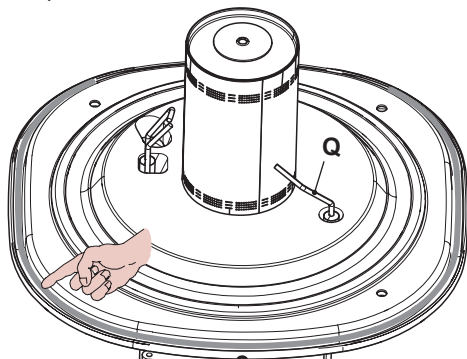
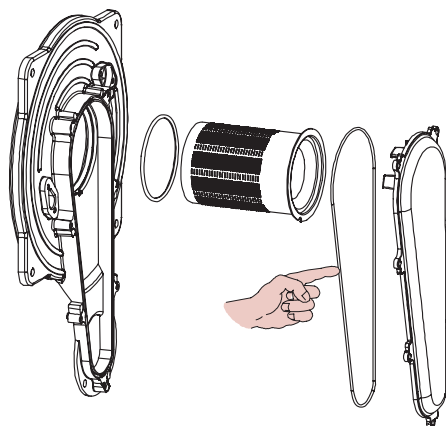

Fig. 10.10
Fig. 10.11
- The silicon seal on the front wall of the combustion chamber Fig. 10.10 and the seal on the air/gas pipe cover (Fig. 10.11) must be replaced if worn.
- The detection electrode **Q** in Fig. 10.10 also functions as a sensor for the correct drainage of the condensate. Should the mentioned electrode come into contact with the condensate water present within the combustion chamber it sends the boiler into safety lockout. Therefore, should the insulation be wet or deteriorated, provide for the substitution of the same.
**Caution:** After any periodical servicing or disturbance the combustion chamber silicon seal Fig. 10.10 and the Air-gas duct gasket (Fig. 10.11) must be fully inspected and replaced at the discretion of the service engineer.